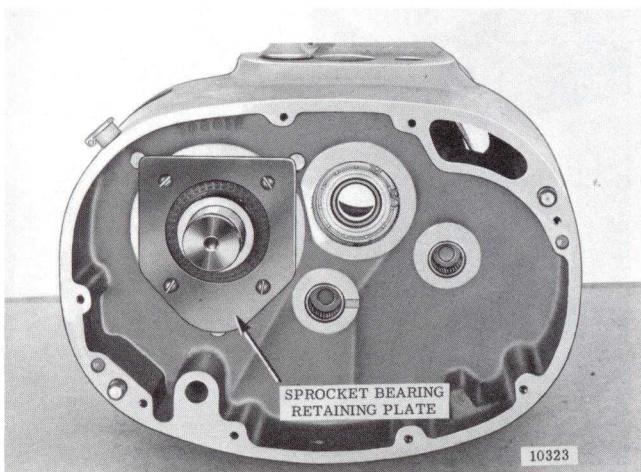
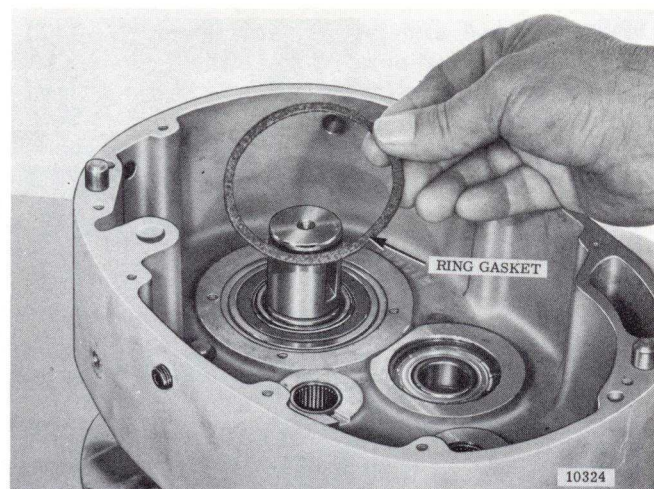

Figure 7-14. View of Sprocket Bearing Retaining Plate
Figure 7-15. Removing Sprocket Bearing Ring Gasket
(2) Unscrew four fillister head machine screws securing sprocket bearing retaining plate and remove plate (fig. 7-14). Remove and discard ring gasket from groove around bearing (fig. 7-15).